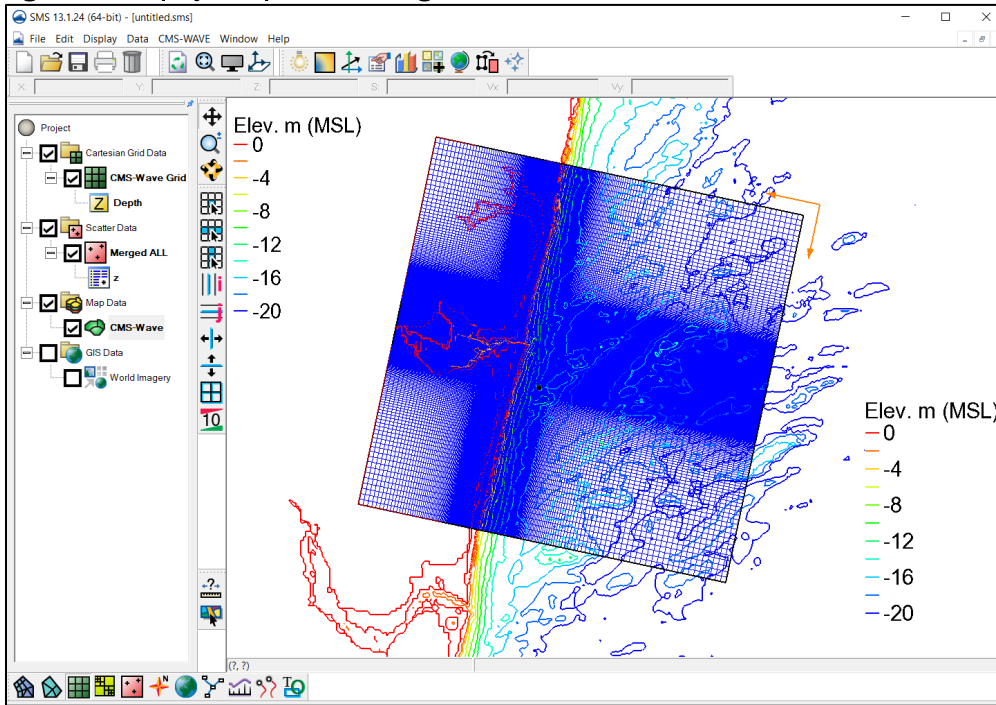

Figure 12. CMS-Wave grid with variable cell size.
- Click **OK** to exit the *Map* → *2D Grid* dialog and create the CMS-Wave grid (Figure 12). The Cartesian Grid Data  appears now with CMS-Wave Grid  in the Data-Tree box.